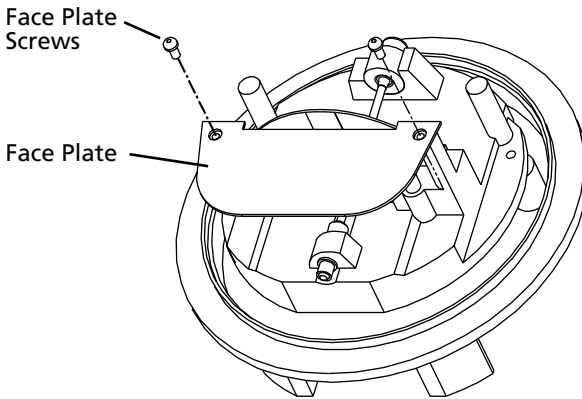

Figure 41. Removing Face Plate
2. Remove the two face plate screws and face plate. See Figure 41.